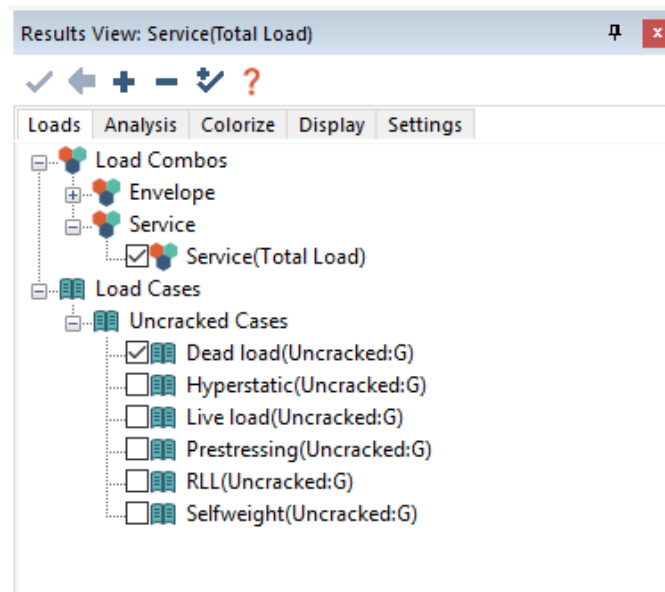

Figure 9-1
- Click on the *Results Display Settings* icon to open the *Results Display Settings* window as shown in **FIGURE 9-1**.